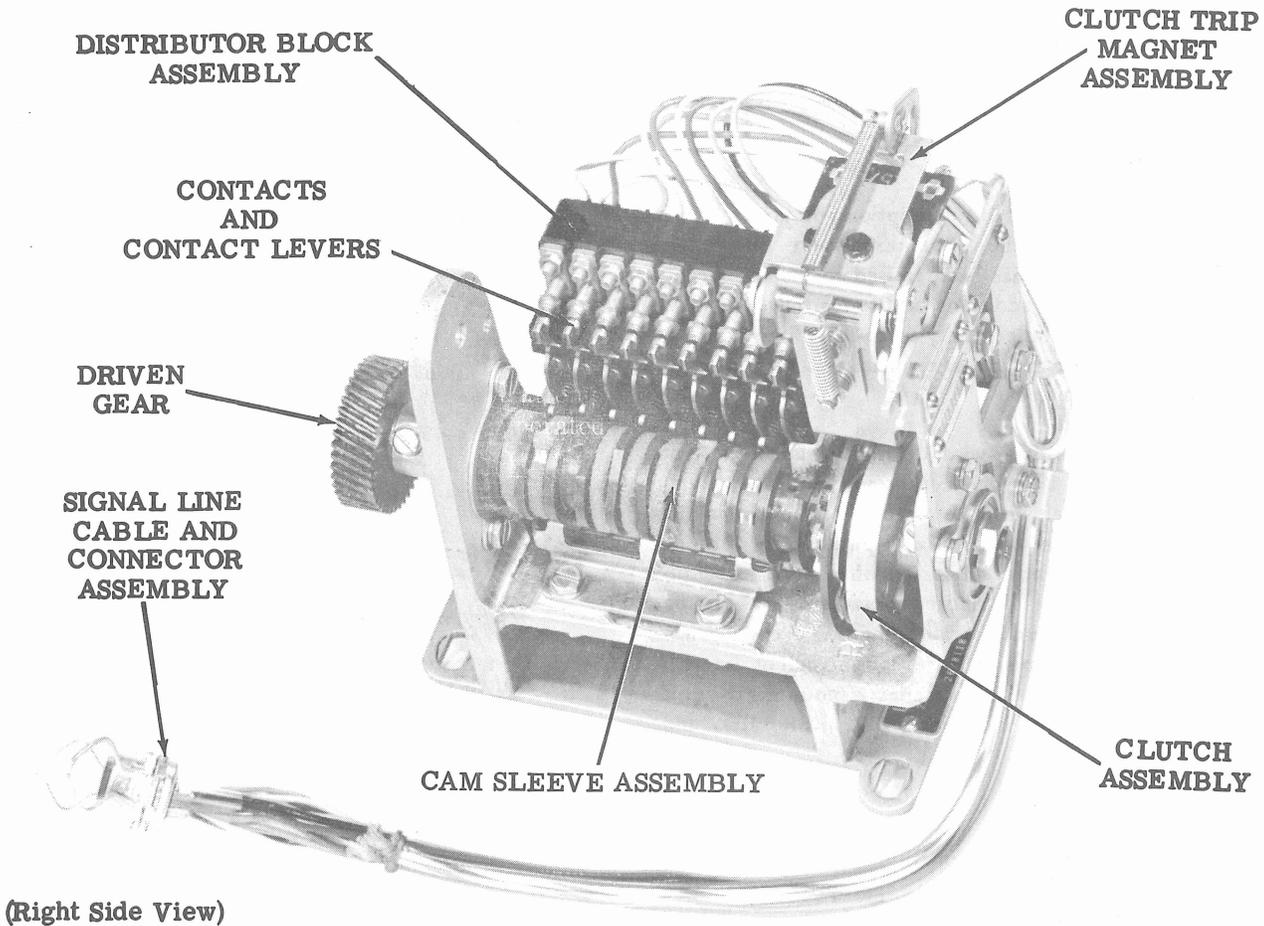

Figure 1 - 35 Multiple Wire Distributor
1.01 This section contains description and principles of operation for the 35 multiple wire distributor (Figure 1). The section has been revised to include recent engineering changes and additions, and to rearrange the text, so as to bring the section generally up-to-date. Since this is a general revision, marginal arrows ordinarily used to indicate changes have been omitted.